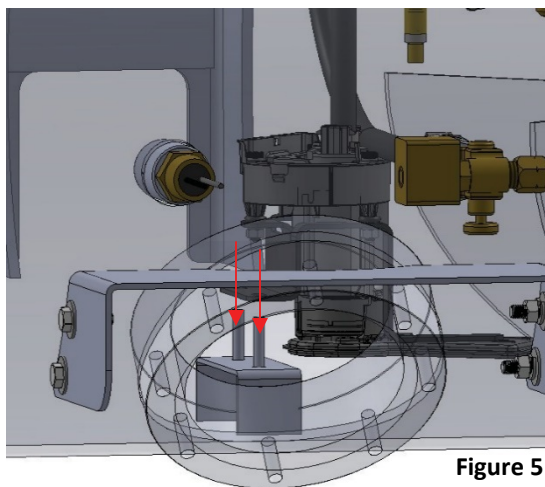

Figure 5
4. Install the fuel pump onto the fuel pump hold down bracket studs in the LPI® fuel tank. (Figure 5)